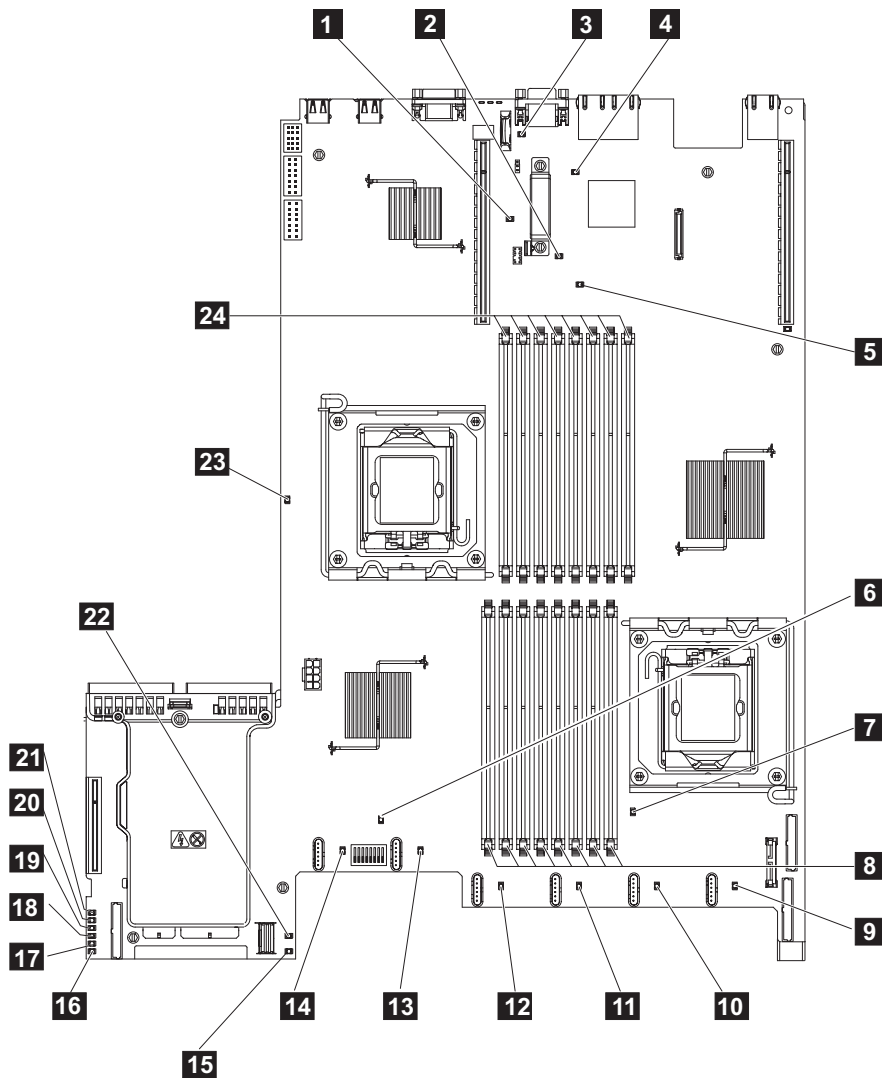

Figure 97. SAN Volume Controller 2145-CF8 system board LEDs diagnostics panel
**YES** See Table 57 on page 410 and perform the action specified for the specific light path diagnostics LEDs. Then go to step 3 on page 412. Some actions will require that you observe the state of LEDs on the system board. Figure 97 on page 408 shows the location of the system board LEDs. The fan LEDs are located adjacent to each FAN. To view the LEDs you will need to do the following: